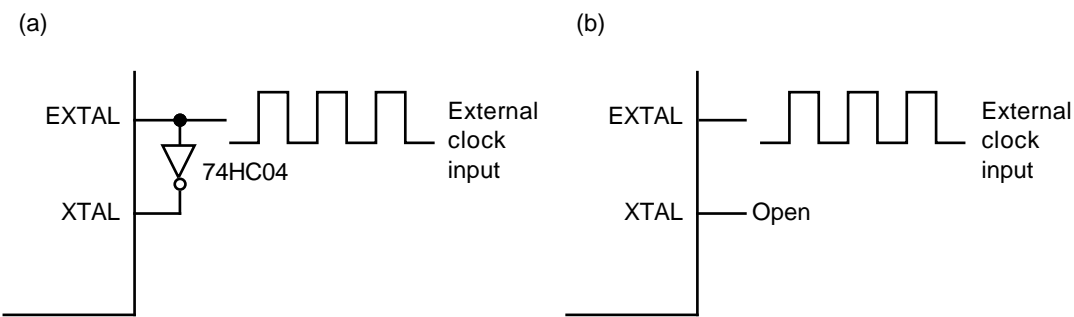

Figure 14-5. External Clock Input (Example)
(2) Input of External Clock Signal
① **Circuit Configuration:** Figure 14-5 shows examples of signal connections for external clock input. In example (b), the external clock signal should be held high during the standby modes.